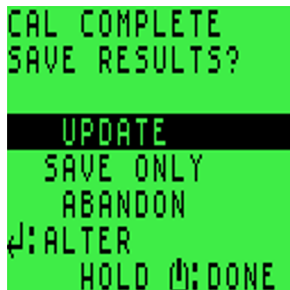

Figure 59: CAL COMPLETE/SAVE RESULTS Screen
7. Once calibration is successfully completed, the user has the option of saving the results (refer to Figure 59: CAL COMPLETE/SAVE RESULTS Screen).